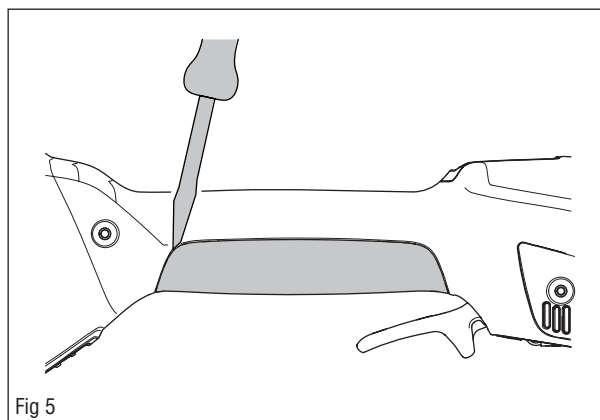

Fig 5
Poke off the grip protection (A) using a screwdriver. Assemble in the reverse order. See figure 5.